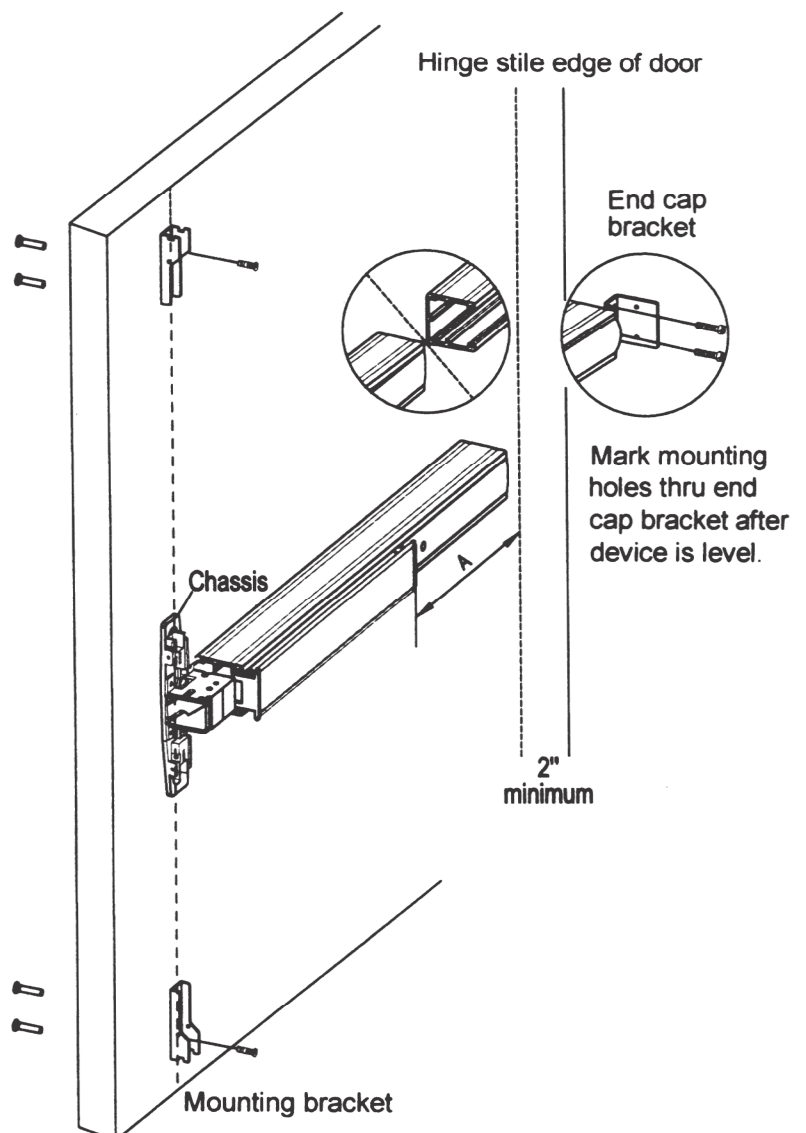

Figure 2
6. Install two mounting brackets on top and bottom of the door. (See Fig. 2.)